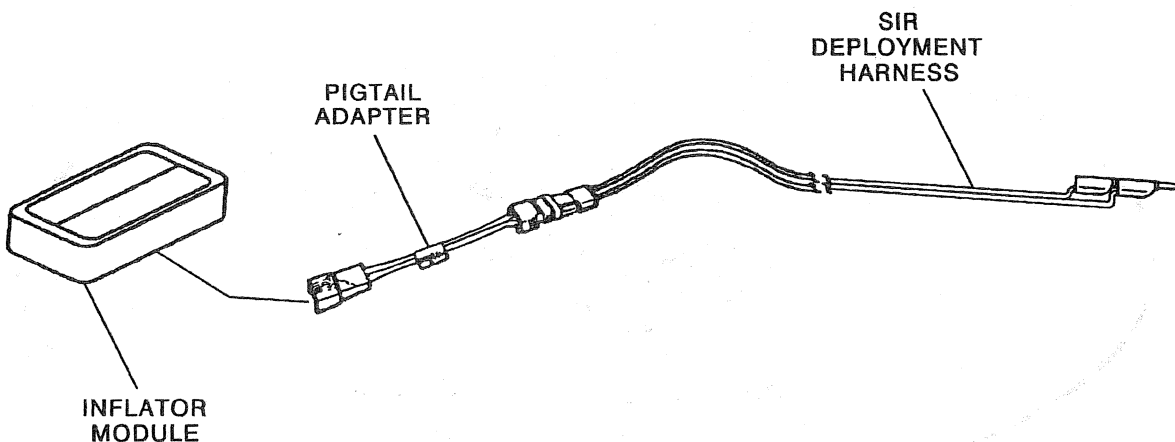

Figure 18—Connecting the SIR Deployment Harness to the Inflator Module
13. Connect the inflator module to the pigtail adapter on the SIR deployment harness. Deployment harness shall remain shorted and not be connected to a power source until the air bag is to be deployed. The inflator module will immediately deploy the air bag when a power source is connected to it (Figure 18).